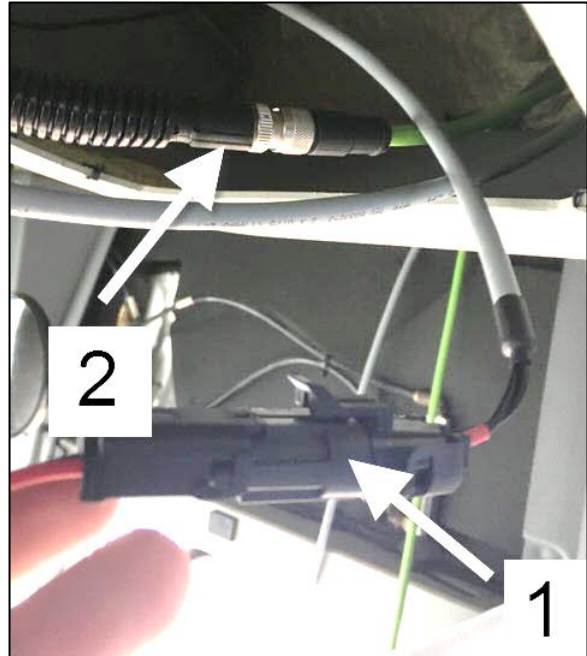

Figure 19
32. Disconnect the APC electrical wire connectors (item 1, Figure 19).
33. Disconnect the APC coaxial wire connectors (item 2, Figure 19).